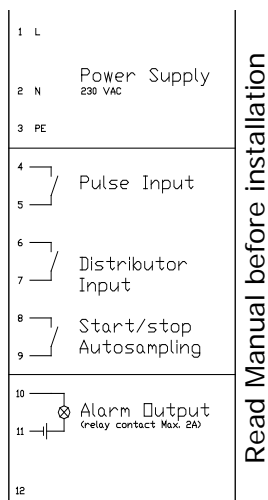

Fig. 2.3d
- Connect the power supply cable(230VAC/50Hz) to contacts 1 (ground), 2 (live) and 3 (null) of the terminal (see sticker in fig.2.3d).
Optional for Efcon[®] systems are connectors on the side available. Connect the pins of the connectors according fig 2.3d. Places the connectors with its cable inlet downward to prevent moisture inside the connector.